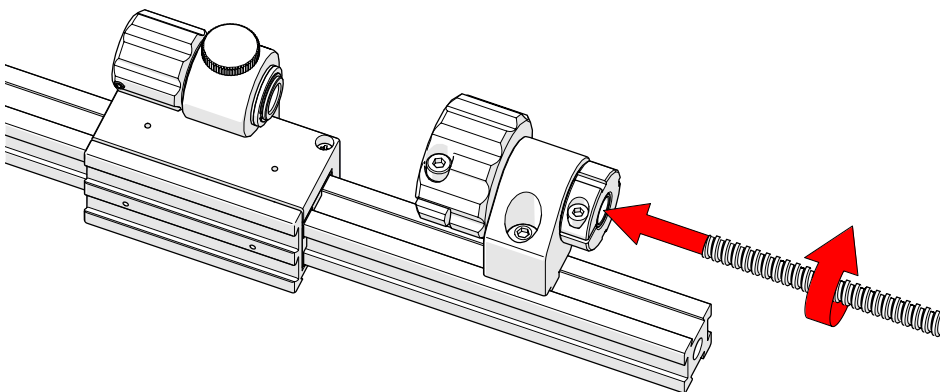

Fig. 227 - Insert leadscrew into main knob and slider
5. Rotate the leadscrew to insert it into the main knob and slider (Fig. 227).